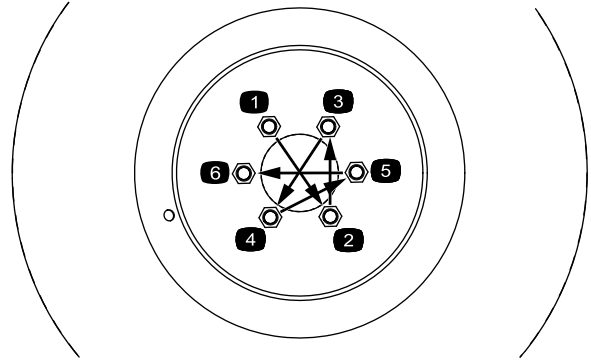

Figure 14
2. Install the front tires using the lug nuts previously removed. Torque the lug nuts to 94 to 122 N·m (70 to 90 ft·lb) in a crossing pattern (Figure 14).